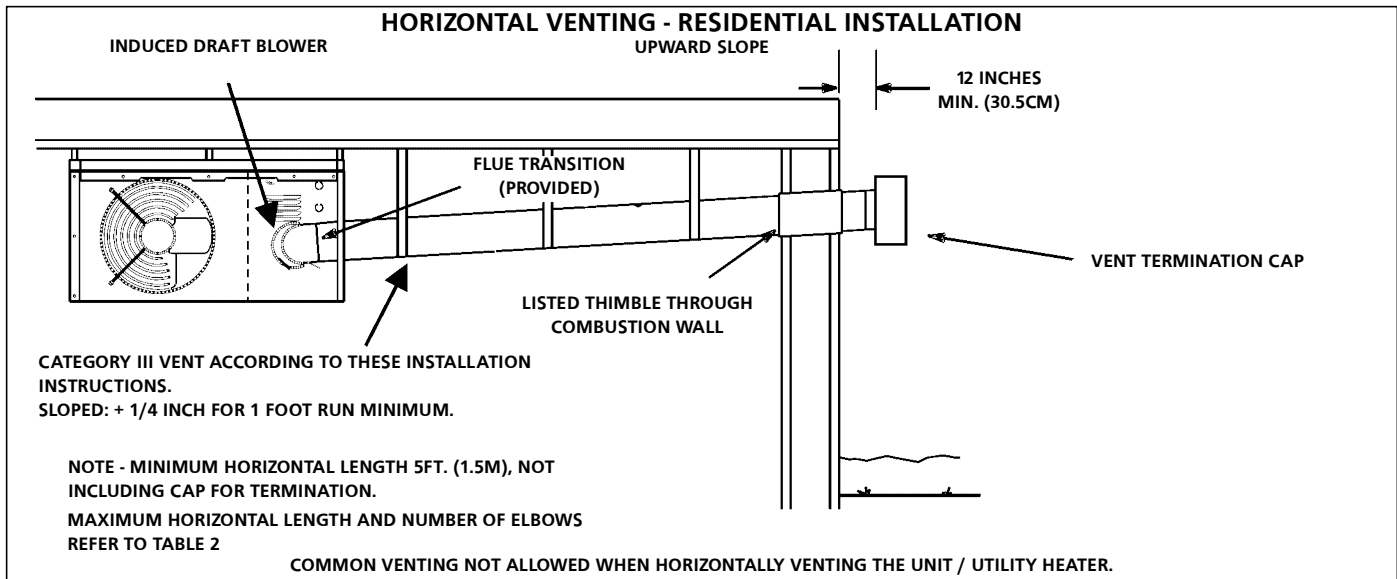

FIGURE 6
- For horizontal residential installations these units are certified as Category III appliances. **Venting A - General Recommendations and Requirements** and **C - Horizontal Venting General** and **E - Horizontal Venting - Residential**. Refer to figure 6.